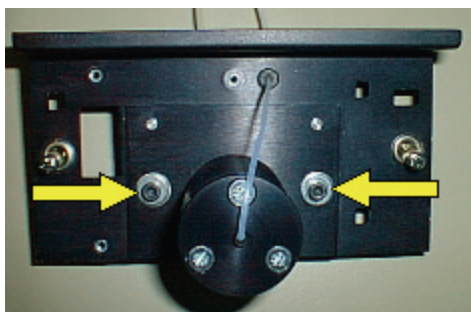

Figure 44 Mount plate locking screws
8. Remove the accessory from the LS 55 sample area and tighten the locking screws shown in Figure 44.